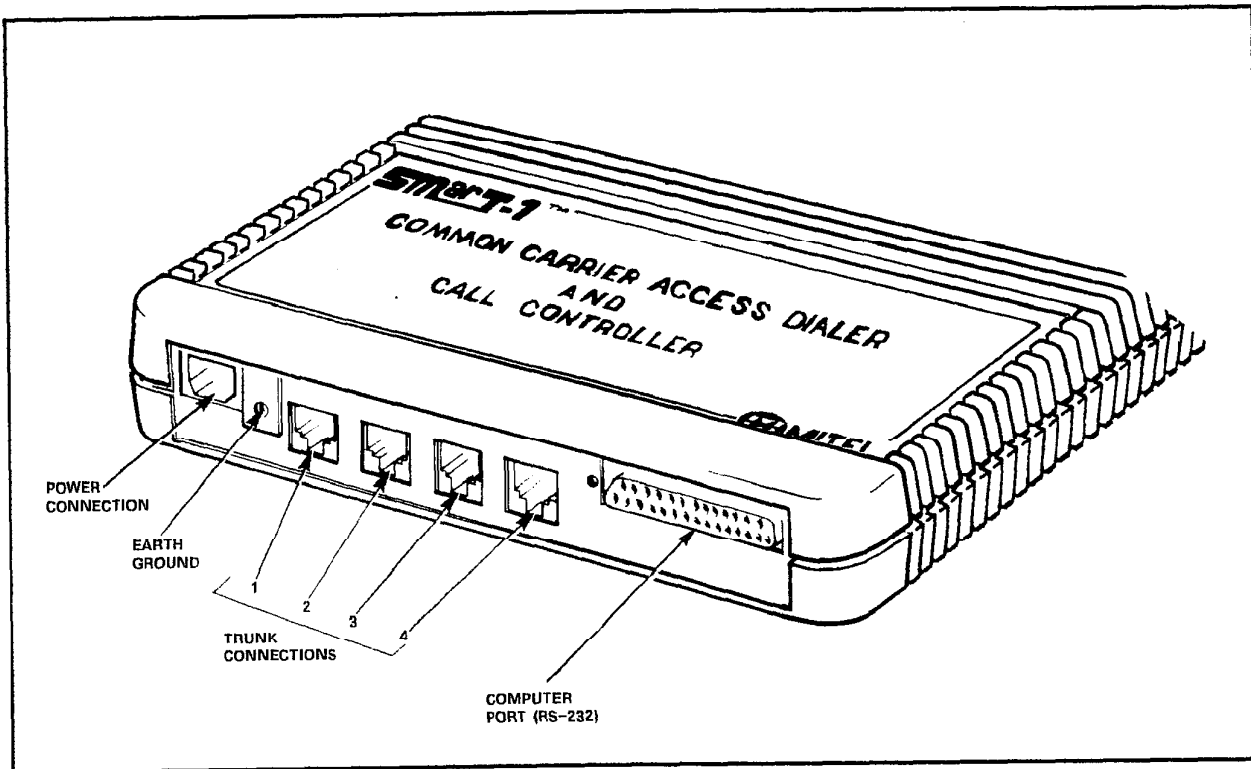

FIGURE 2: CONNECTOR PANEL
**3.04** Seven connections are required for operation. These are made to the connectors located along one edge of the housing (refer to Figure 2). Make the connections as follows: